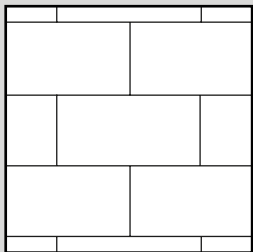
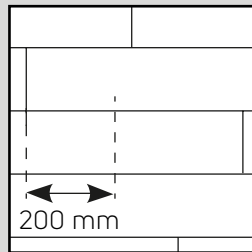

Fig. 3a
Fig. 3b
- Start the second row by clicking the tongue into the groove holding the plank at an angle (approximately 30°), then push the plank/tile firmly into the groove of the first row. Install the next plank/tile by clicking the tongue and groove together along the short edge. Ease the tongue and groove together on the long side by angling the planks/tiles together (Fig. 3). Tiles and planks should be installed 'off-set' such that four corners never meet (Fig. 3a and Fig. 3b).